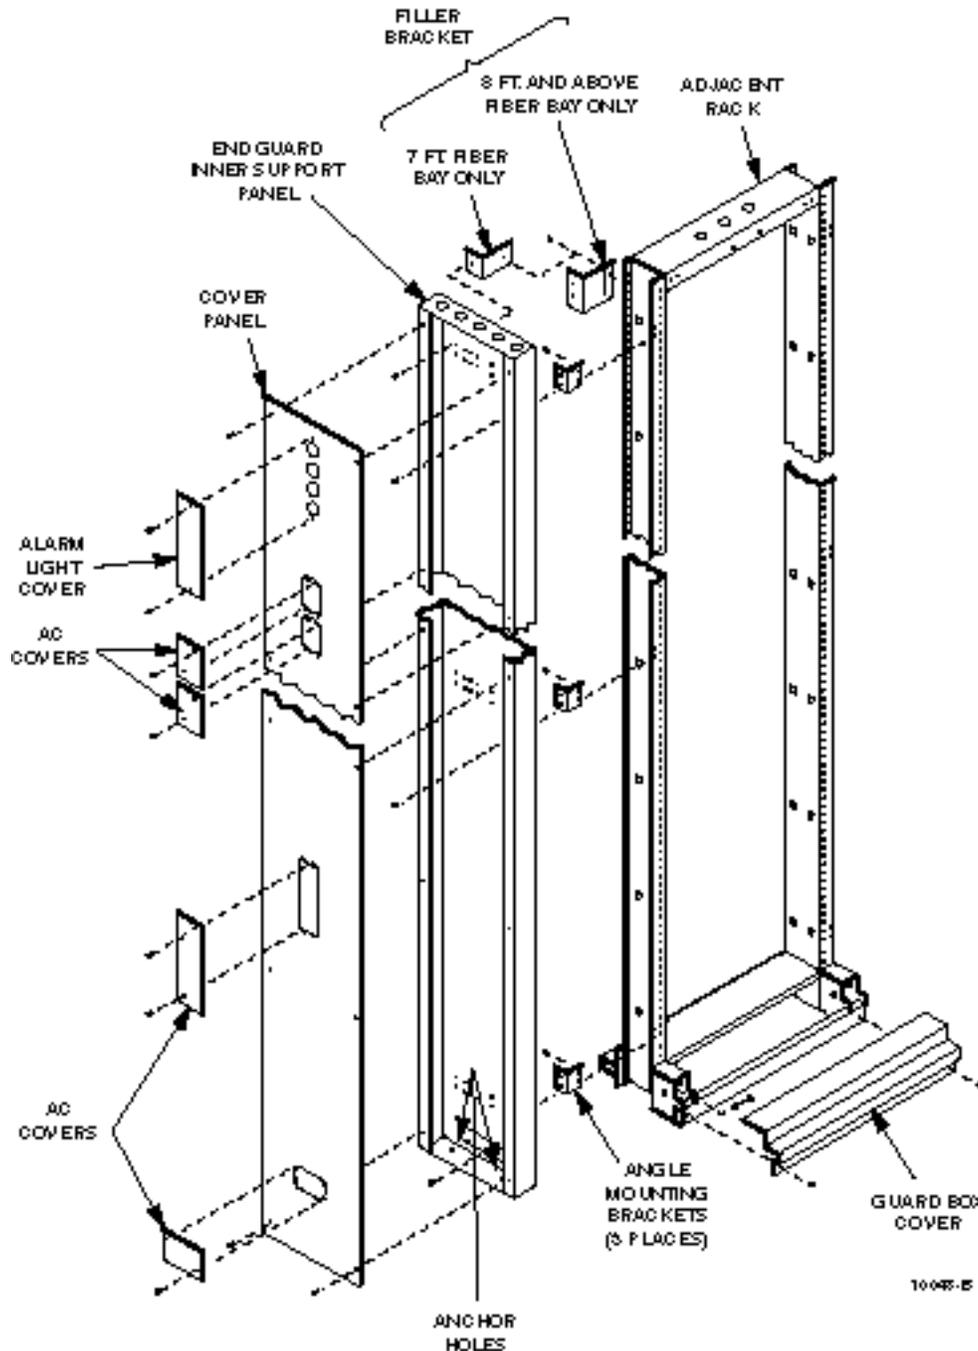

Figure 9-13. Installing an End Guard Panel Directly To Network Rack
- 9.7.5.1 An end guard panel can be used with any ADC unequal flange rack of either type, network or non-network. It can be attached directly to a rack or to a filler panel or interbay fiber management panel. Three heights are available corresponding to the three heights of racks. Use the following procedure to install an end guard panel (Figure 9-13).